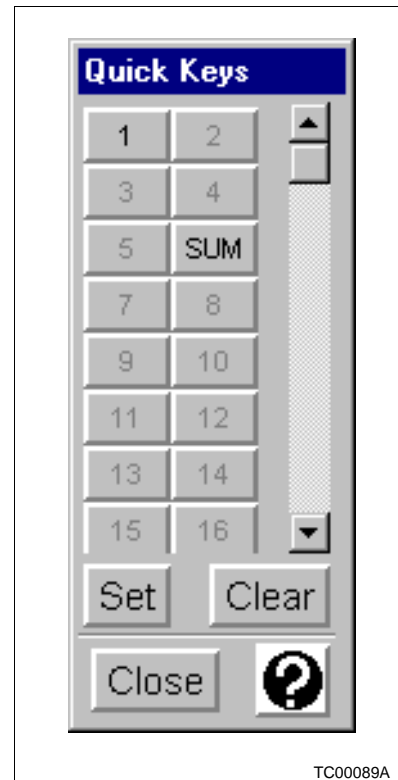

Figure 11-28. Quick Key Pop-Up
This window allows the user to enter a text string of up to six characters in length. This text will appear on the quick key. The default text string is the number of the quick key (1 to 64); the user can choose to discard this numeric identifier. By using mnemonic identifiers and identifying the quick keys in this manner, the user can see how keys are assigned. For an example, Figure 11-28.